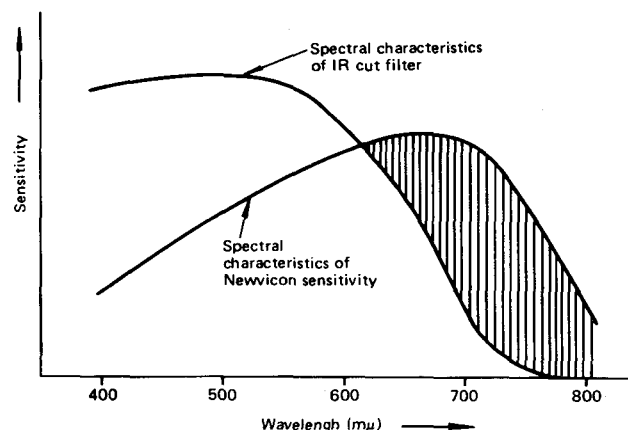

Fig. 1-5 IR Cut Filter Response
As shown in Fig. 1-5, the pick-up tube has some sensitivity in the infrared region beyond the visible range. The infrared (IR) cut filter cuts off the infrared light rays which the human eye does not see as light. If the color signal is made by using the video signal corresponding to the infrared rays which the human eye can not normally see, the color of pictures on the monitor and that seen with the naked eye would differ substantially.